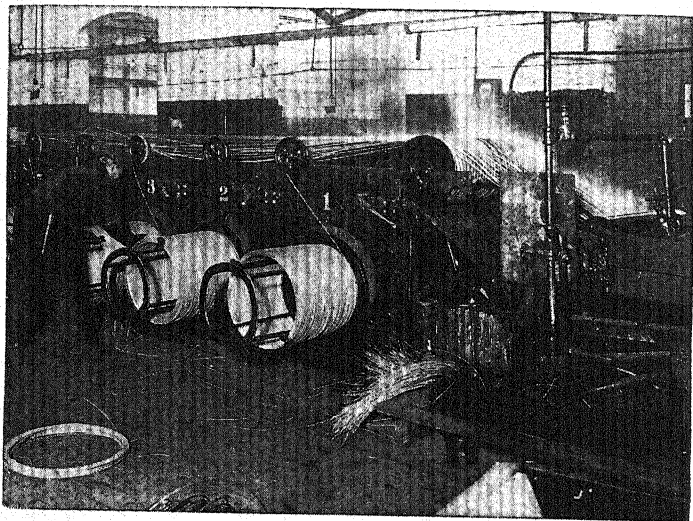

FIG. 286. — Iron wire is unrolled, passed through a vat of molten zinc, and then re-rolled after the galvanizing process.
Large quantities are used for making *galvanized iron*. The iron is thoroughly cleaned by "pickling" it in an acid bath to remove scale and tarnish. Then it is covered with zinc by the use of any one of three methods: (1) It may be dipped into a vat of molten zinc. (See Fig. 285.) Wire is galvanized by drawing it through a bath of melted zinc, as shown in Fig. 286. The zinc that adheres to the iron after dipping is beautifully crystalline. (2) Sometimes zinc is